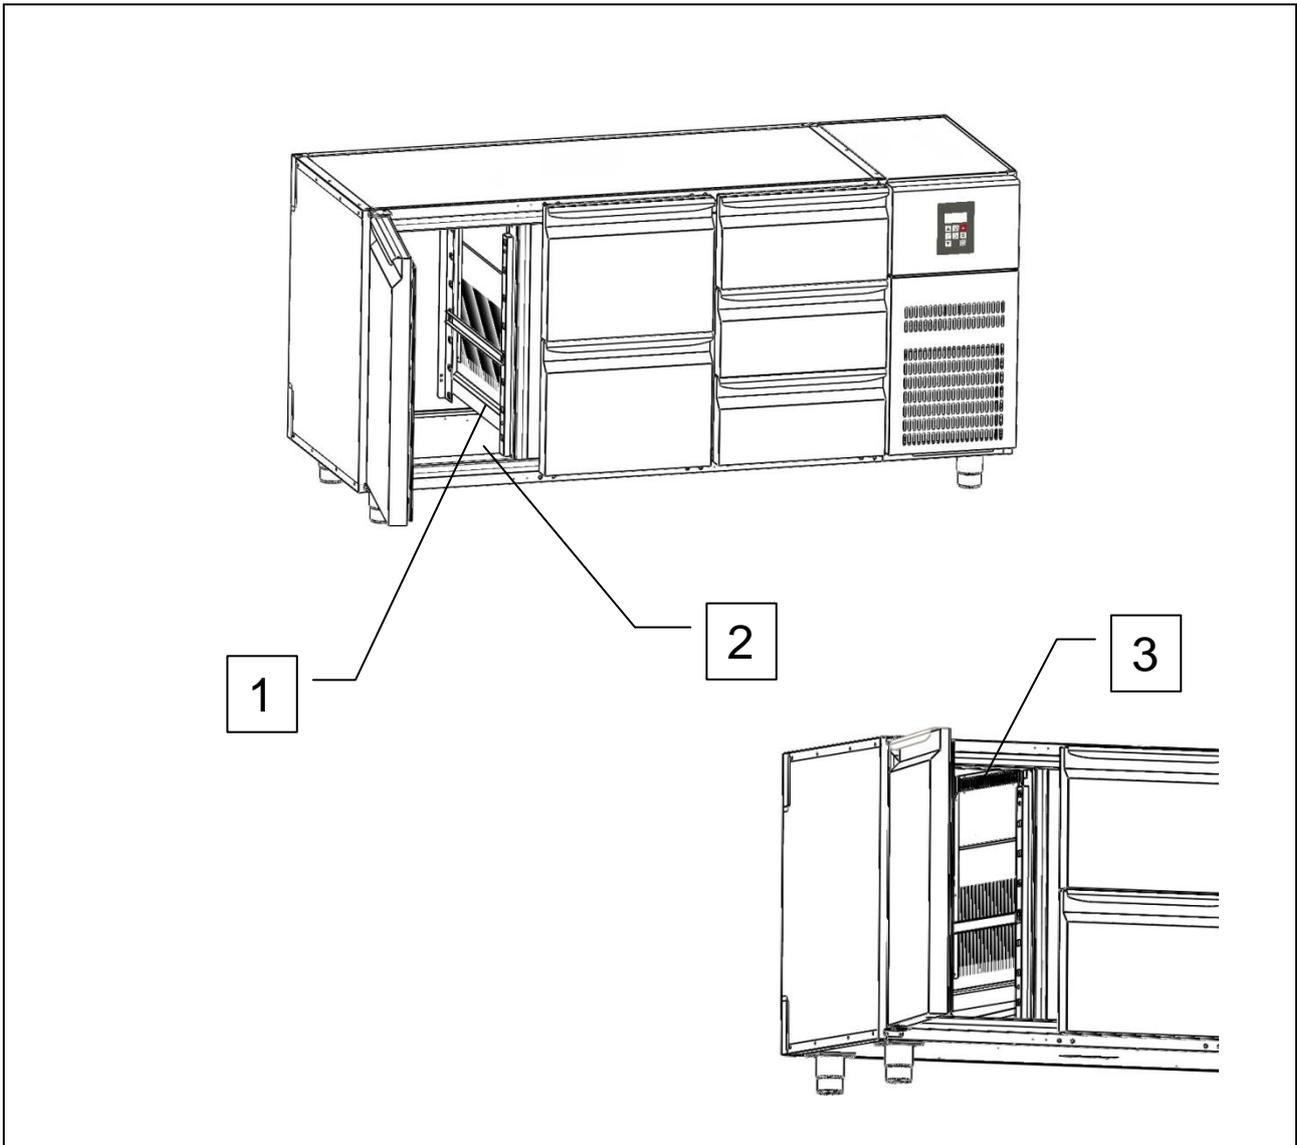

Fig. 4
- with obstructed air ducts (ref. 1 fig. 4);
- with any food products (food or drinks) placed close to the internal ventilation grilles (ref. 3, fig. 4) or directly on the cabinet floor (ref. 2, fig. 4).